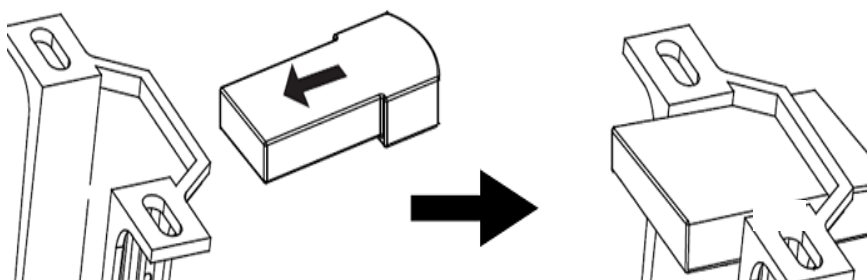

Fig. 12
12. Carefully insert the Remote Receiver above the hanger ball in the remainder spacing in the mounting bracket. Take care not to damage or loosen any of the wiring. **(Fig. 12)**